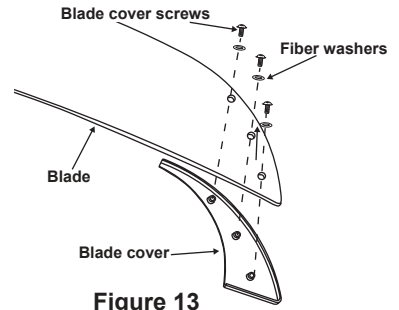

Figure 13
Step 1. Remove all the blade cover screws and fiber washers from the blade cover. Attach the blade covers to the blade by using blade cover screws and fiber washers as shown in Figure 13.